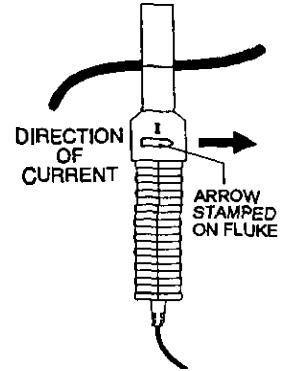

Figure 9
15. **The next two (2) measurements** must be done while the UPS is **running on inverter**. Remove AC input power and **let the unit run** for approximately one (1) **minute** before you go on.
17. To **measure** DC current, **you must** use a Fluke **80i-410** DC/AC Current Probe or equivalent. If you do not have this probe or its equivalent, **call** Best Power Worldwide Service at 1-800-356-5737. Set the meter for DC **mV**, attach the Fluke **80i-410** current probe, and clamp the probe on the positive (+) battery cable. Then, read the measurement. DC current should equal one (1) amp per DC **mV** measured.
18. Display parameter 6 (I Batt) by pressing [DISPLAY] [6] [ENTER]. Using the clamp-on AC/DC probe, set the digital multimeter for DC mV. Measure at the positive (+) battery cable with the probe. The arrows stamped on the current probe must match the flow of current you are measuring. (See Figure 9.) If the result is different from the value displayed for parameter 6, change the value of parameter 6 by pressing [PROGRAM], entering your measured value, and pressing [ENTER].